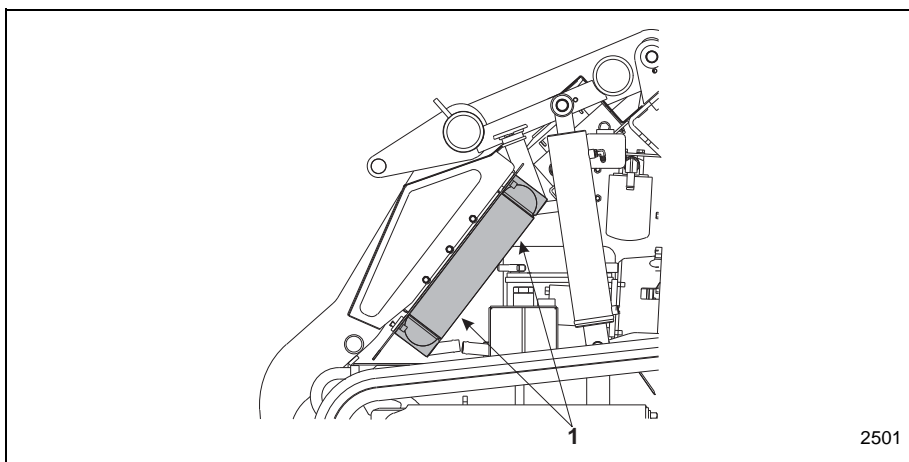

Figure 3-5 Radiator Air Flow Inspection
5. Inspect the radiator to make sure that the air flow is not blocked. The fan located on top of the unit is a suction fan, which draws air from inside the machine. Check the engine side of the radiator (Item 1, Figure 3-5) to make sure that debris has not been sucked against the radiator blocking air flow.
NOTICE: Some items in Figure 3-5 have been removed for clarity.